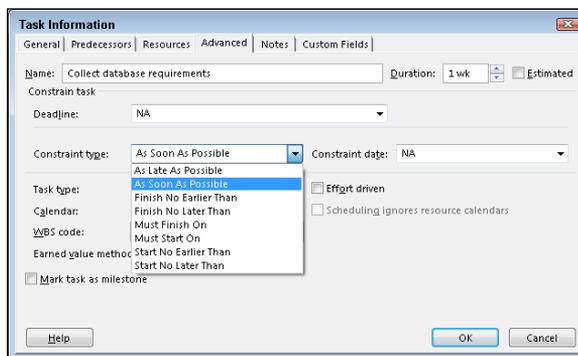

Figure 5-3:
3. Select a constraint from the Constraint Type list (see Figure 5-3).